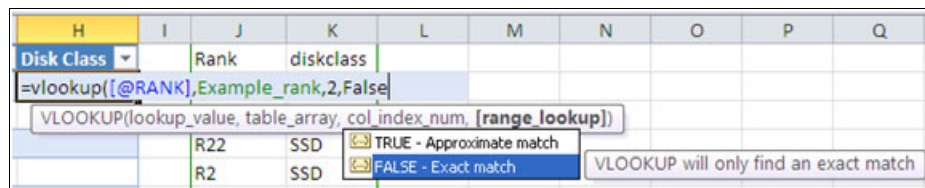

Figure 14 Adding the Excel =vlookup function
13. Insert a vlookup formula (Figure 14) that uses the rank name to refer to the rank data in the named range. Specify an exact match and return the data in column 2, which is the disk class.